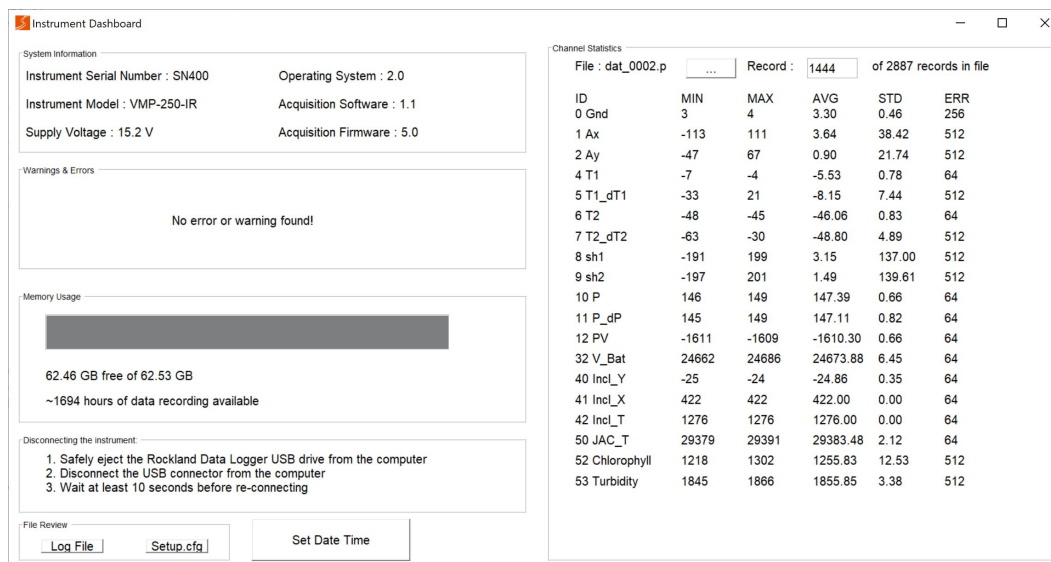

Figure 35: Viewing the Rockland Data Logger status with Zissou Essentials.
Connecting to the instrument using the Zissou Essentials software provides additional functionality via the “Instrument Dashboard” (Figure 35). For more information, refer to the Help menu of the Zissou Essentials software program. When the connection is made with the Instrument Dashboard, the computer will simultaneously connect to the RDL USB Drive (as described in Section 4.2.1) to allow file transfer. The additional functionalities of the Instrument Dashboard include:
7. The Instrument Dashboard will appear and provide you information about your instrument and your Rockland Data Logger (Figure 35). Refer to the “Help” menu of the Zissou Essentials software program for more information about the dashboard.